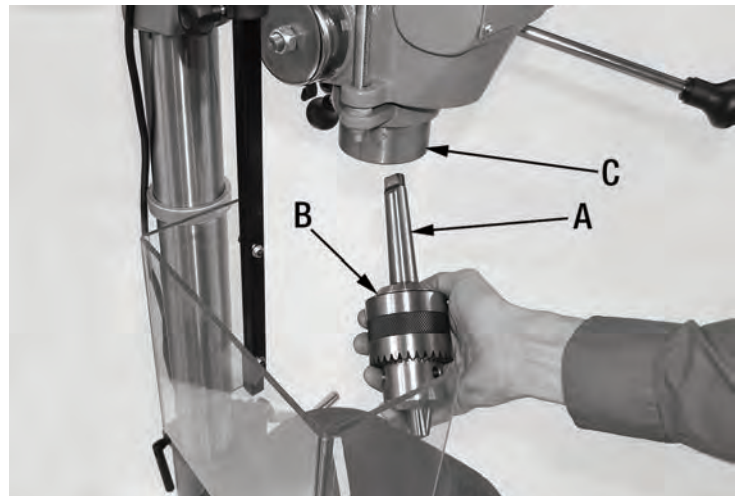

FIGURE 16
- 1) Locate the 3/4" chuck (A) Fig.16 and arbor (B) in the box of parts.
- Periodically lubricate all sliding or moving parts including the column and rack (A & C) Fig.8 and the quill (C) Fig.16 (use any all purpose grease, available at any hardware store).